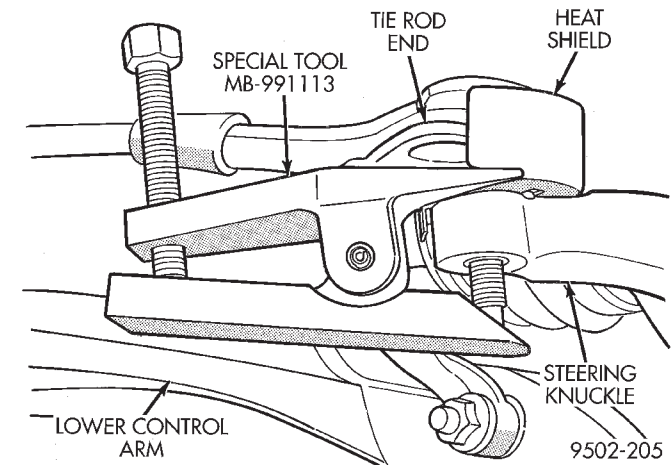

Fig. 7 Tie Rod End Removal from Steering Knuckle
(10) Remove the tie rod end stud from steering knuckle arm, using remover, Special Tool MB-990635 (Fig. 7).